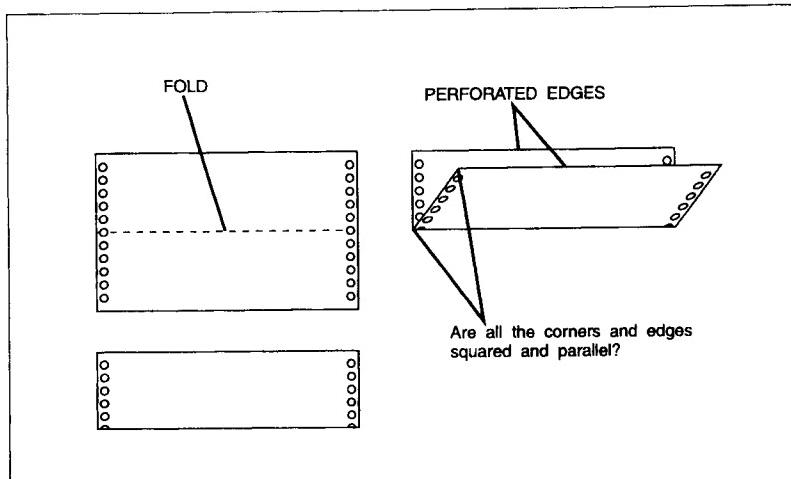

Figure C-6. Perf. Edges Check
4. Now, fold another sheet of paper in half, perforation to perforation, taking great care to square one set of corners and to keep perf edges parallel (see Figure C-6).
6. Now compare either green bar paper line or preprinted line from one half to other half of the single sheet (see Figure C-6). Ideally they should overlap or be parallel.